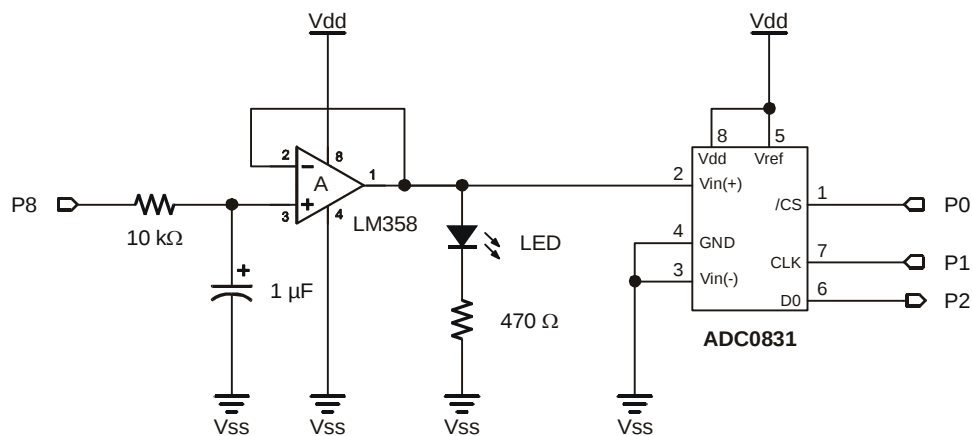

Figure 7-8: PWM DAC with Op-amp Buffer and a Load
Place a voltage follower in between the D/A output and an LED circuit input as shown in Figure 7-8, then run Program Listing 7.1 again.
4. Write a program that tells you the measured resistance value of the photoresistor from Figure 7-8. Hint: Apply the voltage divider equation and use the existing DVM program. You will need to modify the **Calc_Volts** and **Display** subroutines.